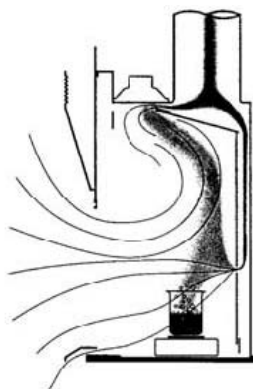

Figure 2
- B. Lighter than air gases** is used for a hot plates or other hot process used inside the hood. As shown if figure 2, this position allows more air flow in the upper part of the hood and will give the best performance for this condition.